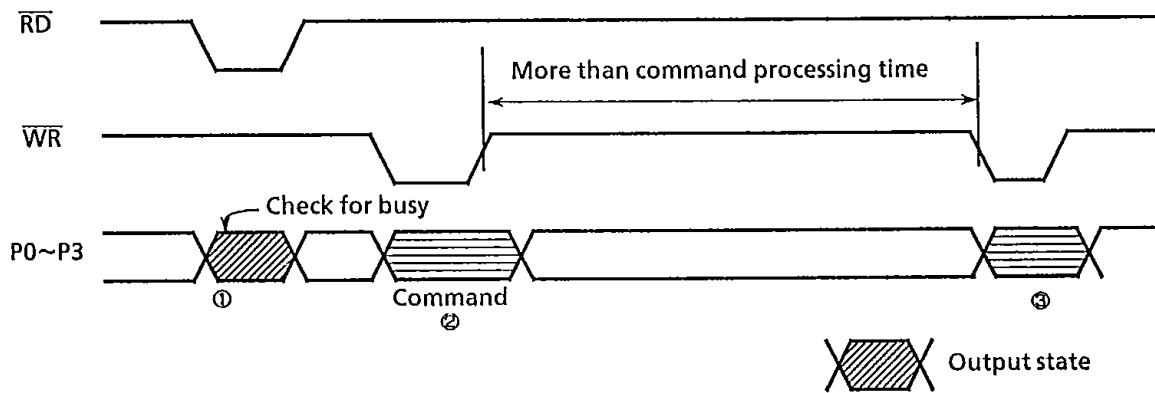

Fig.5.12 How to write command
As shown in Fig. 5.12, ① using \overline{RD} pulse, read status from TC8830AF and check BUSY flag ② If not busy state, after setting up command in P0~P3, write a command using \overline{WR} pulse. In case of such 3 nibble commands as LABEL, keep at command processing time (refer to section 5.2.5), ③ write the 2'nd and 3'rd nibbles.